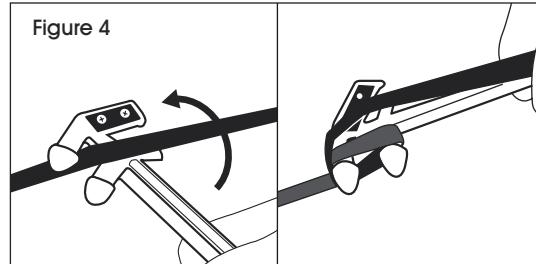

Figure 4
1. Place strapping between tensioner rods. Raising the handle, flip tool 360 degrees. (See Figure 4)